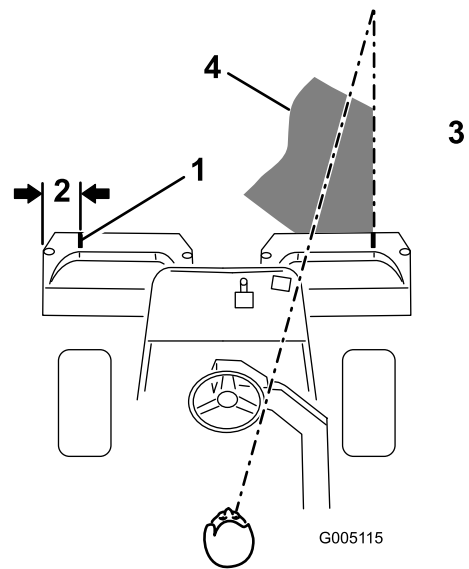

Figure 29
2. Either place a strip of white tape or paint a line onto each basket paralleling the outer edge of each basket (Figure 29).
3. Overlap a minimal amount with the previous cut on return passes. To assist in maintaining a straight line across the green and keep the machine an equal distance from the edge of the previous cut, establish an imaginary sight line approximately 1.8 to 3 m (6 to 10 ft) ahead of the machine to the edge of the uncut portion of the green (Figure 29 and Figure 30). Some find it useful to include the outer edge of the steering wheel as part of the sight line; i.e. keep the steering wheel edge aligned with a point that is always kept the same distance away from the front of the machine (Figure 29 and Figure 30).